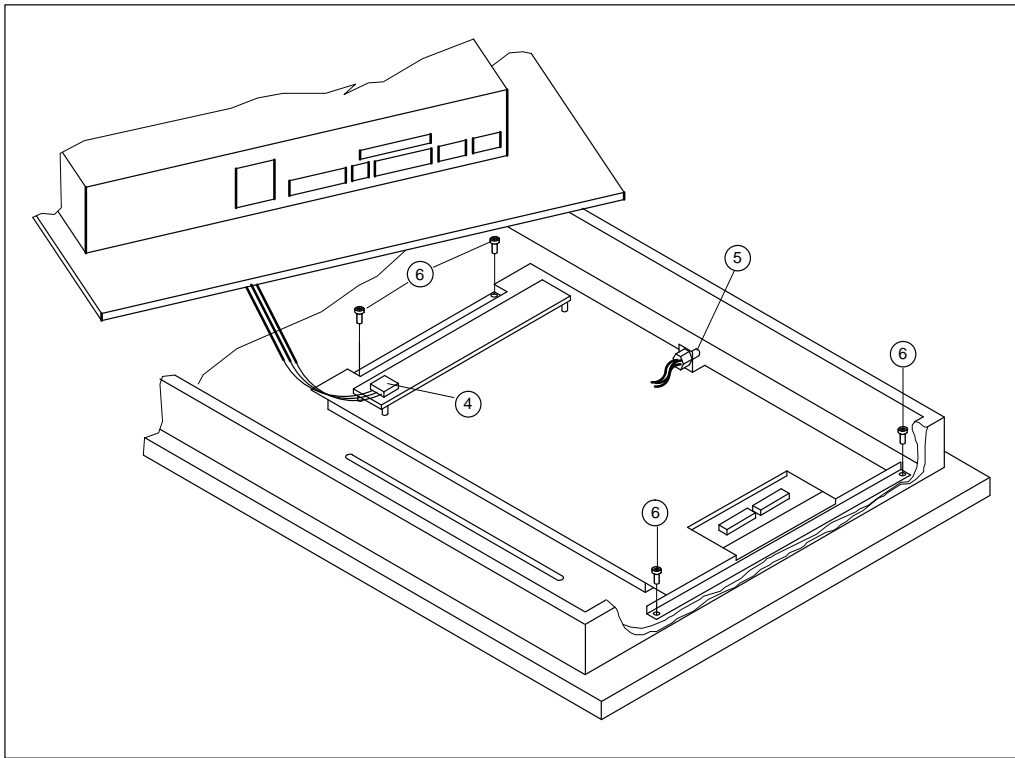

Figure 18-9 OP35: Opening the housing of the OP (putting the housing aside)
1. Remove the four screws ⑥ (→ figure 18-9).